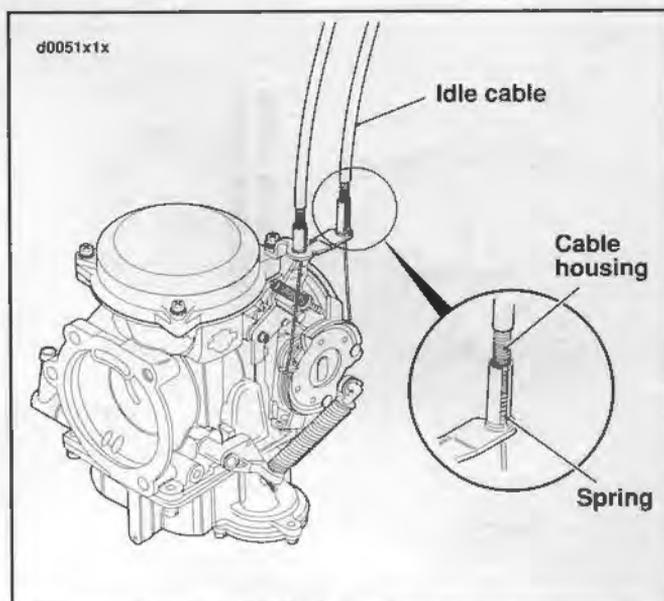

Figure 1-17. Throttle Cable Adjusters
4. See Figure 1-17. Turn the idle cable adjuster, lengthening the sleeve until the cable housing just touches the spring in the cable support sleeve.